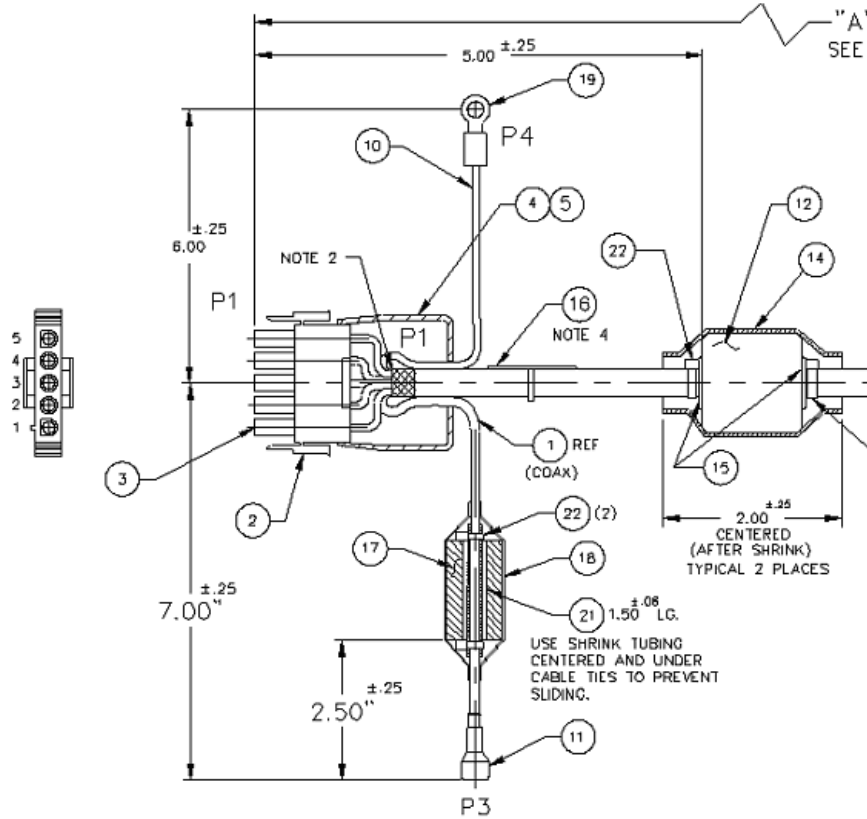

Figure 2: P1, P3 and P4 Connectors
3. Assemble connectors P1, P3 and P4 as shown in Figure 2: P1, P3 and P4 Connectors.